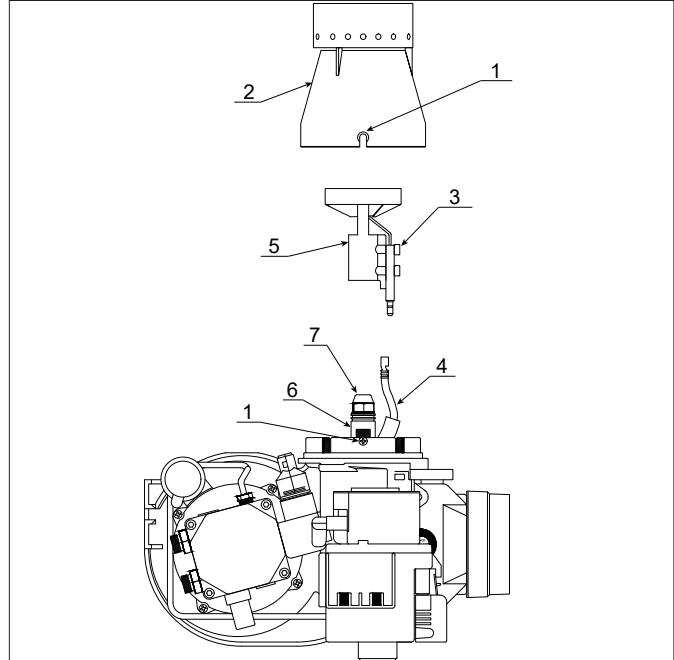
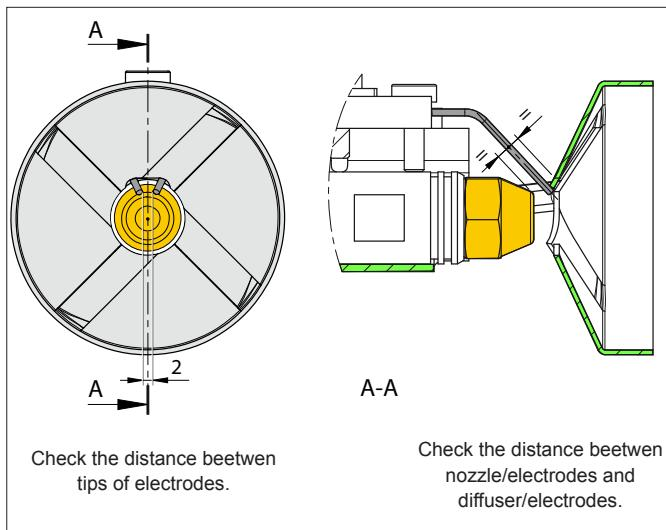
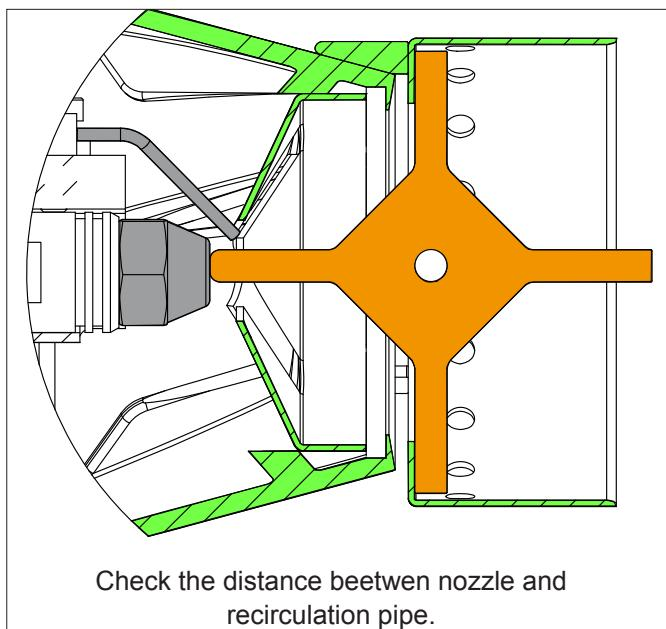

Figure 10-3: Burner head, diffuser and nozzle holder
Figure 10-4: Ignition electrode settings
Figure 10-5: Checking the diffuser position using the gauge provided
1. Remove the burner head. Refer to Figure 10-3. Loosen the two fixing screws (1) and remove head (2) from the burner.
2. Check the nozzle (7) is correct for the required boiler output. Refer to Table 2-3 for the correct nozzle size and type for the required boiler output.
3. If the nozzle needs to be replaced – remove the diffuser/electrode assembly. Refer to Figure 10-3.
- Using a 3 mm Allen key, loosen the diffuser fixing screw (3) on the electrode assembly.
- Lift the diffuser/electrode assembly (5) up and off the nozzle holder.
- Disconnect both ignition leads (4) from the electrodes.
4. Use a 16mm spanner to remove /re-fit the nozzle, whilst holding the nozzle holder (6) using another 16mm spanner.
5. Re-fit the diffuser/electrode assembly. Refer to Figure 10-3.
- Re-connect ignition leads (4) to electrodes.
- Re-fit the diffuser/electrode assembly (5) onto the nozzle holder (6) lining up the fixing screw (3) with the recess in the nozzle holder.
- Tighten the fixing screw (3) to secure the diffuser/electrode assembly (5) in place on the nozzle holder (6).
6. Check/adjust the electrode setting. Refer to Figure 10-4. Always check the electrode settings after replacing the nozzle.
7. Re-fit the burner head. Refer to Figure 10-3.
- Locate the head fixing screws in the countersunk slots in the burner collar (1).
- Check/adjust the electrode setting. Refer to Figure 10-4.
- Tighten the two screws to secure the head (2) in position on the burner.
8. Check/adjust the diffuser position. Refer to Figure 10-5.
- Refer to Table 2-3 for the required distance (diffuser setting) for the boiler output required. This is the distance from the front face of the nozzle to the internal shoulder of the burner head. Refer to Figure 10-5.
- If the diffuser setting is correct, the tip of the gauge leg will just touch the front face of the nozzle, with the gauge still in contact with the internal shoulder of the burner head on BOTH sides. Refer to Figure 10-5.